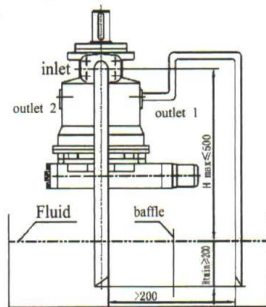

Fig.2
- b) If the minimum fluid level is below the pump mounting face pipe port "outlet 1" and "inlet" according to Fig 2 Close port "outlet 2" with respect taking into consideration. Conditions in 1.2.1.
Before installation fill the pump housing, keeping it in a horizontal position. For mounting above reservoir see Fig. 2.